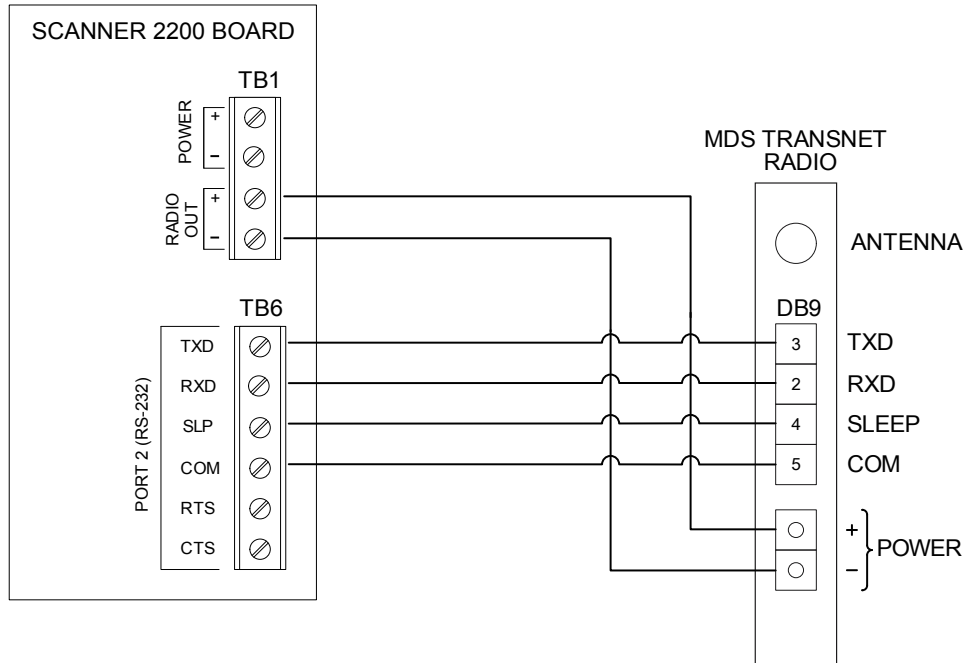

Figure B.2—MDS TransNET radio installation
8. Connect the DB-9 cable is connected to COM 2 (TB6) on the CPU/display board as shown in Figure B.2, page B-4.
9. Connect the two-position radio power plug to the radio power terminal and tighten the two screws. Connect the other end of the power cable to TB1 (Radio Out) on the CPU/display board as shown in Figure B.2, page B-4.